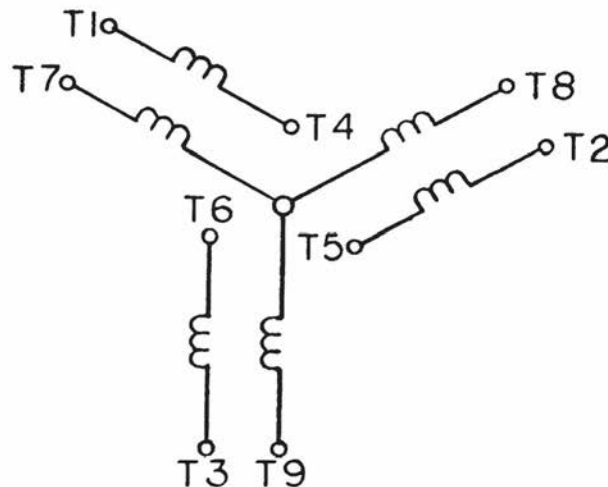

Fig. 16-6
B. With an ohmmeter, check the windings for proper resistance. Refer to Fig. 16-4 Single Phase Capacitor Start. Fig. 16-5 Three Phase Capacitor Start. Fig. 16-5 Three Phase (Single Voltage 60 Hz.). Fig. 16-6 Three Phase (Dual Voltage 60 Hz.).